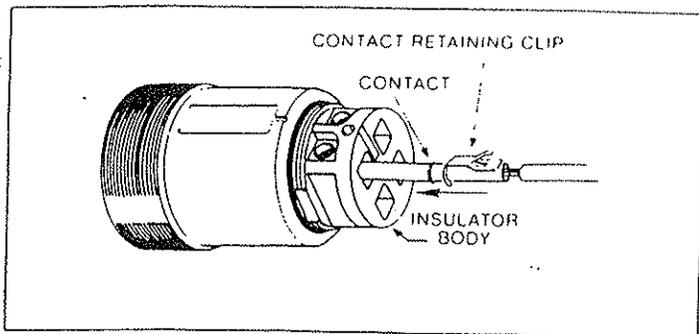

Figure 14.
- Following the system wiring pattern, reinstall the contact retaining clip onto each contact, then push each contact through the rear of the connector housing until the retaining clip snaps into position in the contact recess. Insert the green or grounding conductor into the grounding contact wire well at the same time and securely tighten the pressure connector screw to 30 in. lbs. torque. See Figure 14